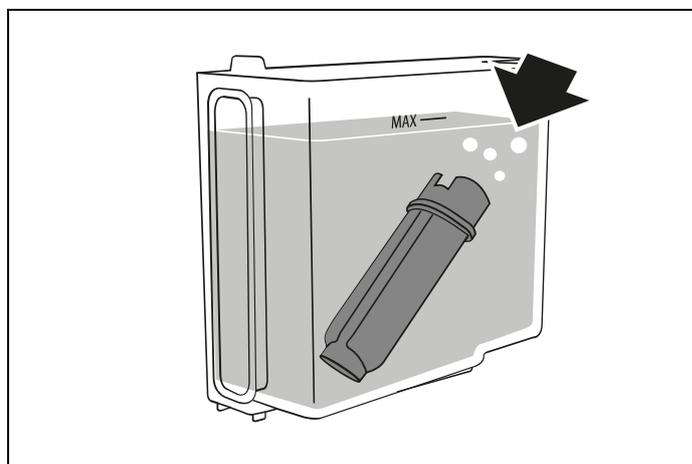

Fig. 62
- 3) **Immerse filter in the water tank letting air bubbles escape** (Fig. 62): Insert the filter in the water tank and immerse it completely for about ten seconds, sloping it and pressing it lightly to enable the air bubbles to escape. Press  NEXT;